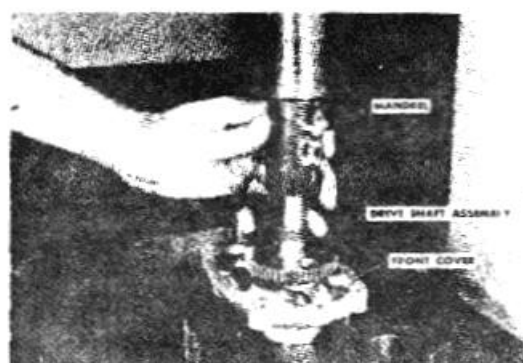

Figure 4-48. Press in drive shaft assembly.
8. Press the main shaft assembly into the front cover. Fig. 4-48.